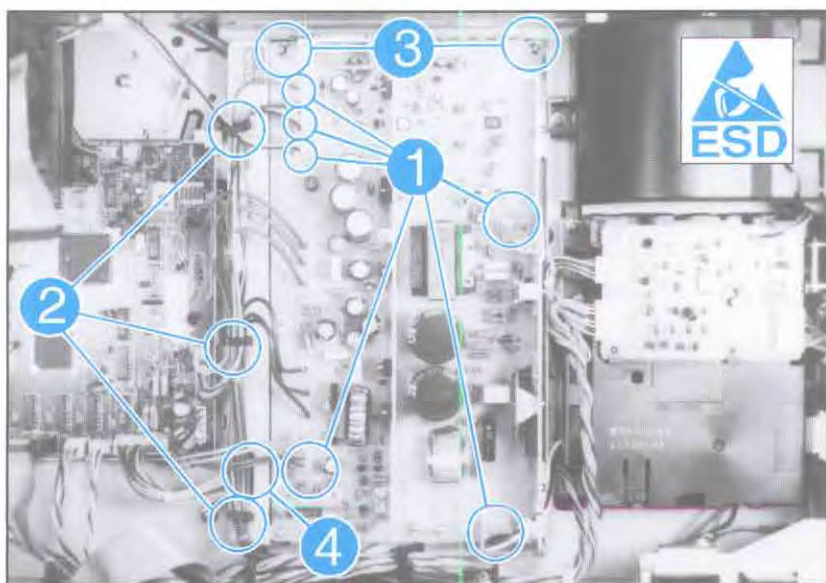

Figure 6-22. DC Power Supply
4. Unplug the (6) connectors from the DC Power Supply (see Figure 6-22, callout 1). These connectors are J1, J2, J4, J5, J6, and J7.
5. Unsnap the (3) clips securing the cables (see Figure 6-22, callout 2).
7. Remove the (2) screws securing the DC Power Supply (see Figure 6-22, callout 3). *Note that the upper left screw has a star washer.*
8. Remove the cable harness from the clip on the DC Power Supply (see Figure 6-22, callout 4).